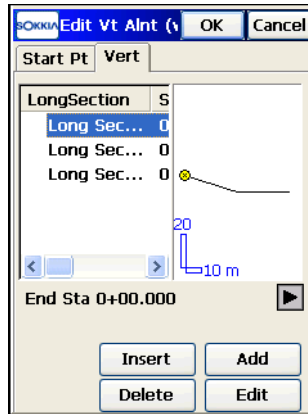

Figure 7-16. Add Vertical Alignment – Vert Tab
5. On the *Vert* tab of the *Edit Vt Alnt* screen (Figure 7-16 on page 7-15), add the vertical alignment elements, or long sections (for the Long Section vertical alignment type).